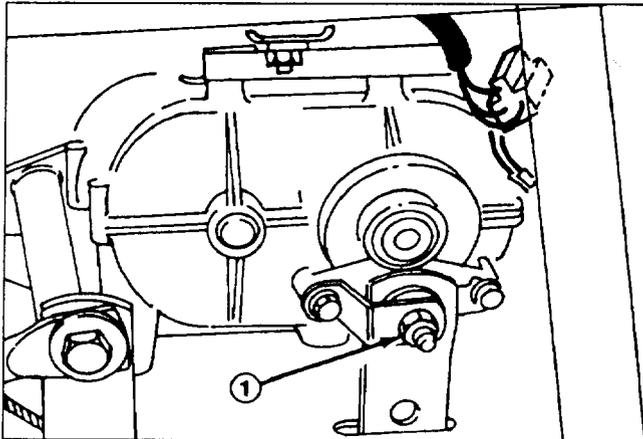

Figure 30
3. Tighten locknut approximately 1/4 turn clockwise (Fig. 30).